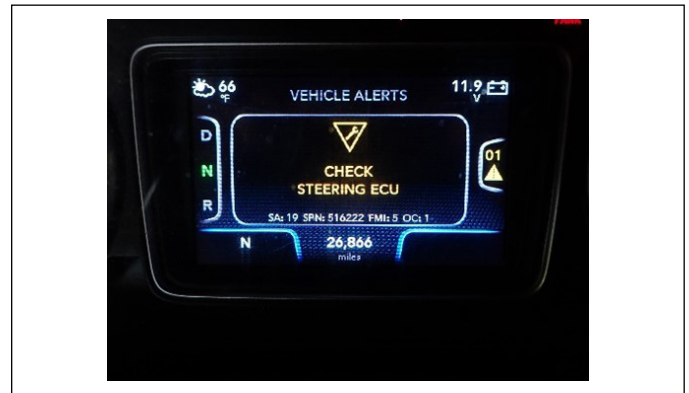

Figure 12 – Check Steering ECU Alert
1. Determine if there are any active driver alerts on the driver display. Specifically check if the *Check Steering Electronic Control Unit (ECU)* alert is active. See Figure 12.